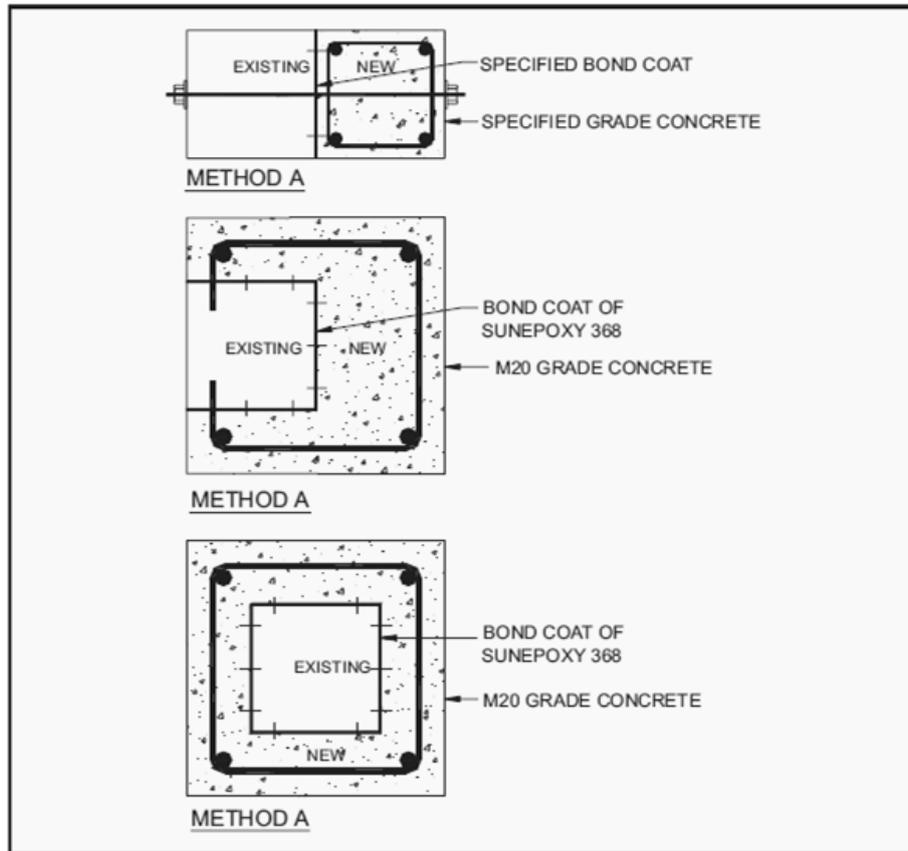

Fig. 6.11 Column Compressive Strengthening by Section Enlargement
a. Capacity: The load carrying capacity of the column can be enhanced by section enlargement. Different types of arrangement for section enlargement are shown in Fig. 6.11